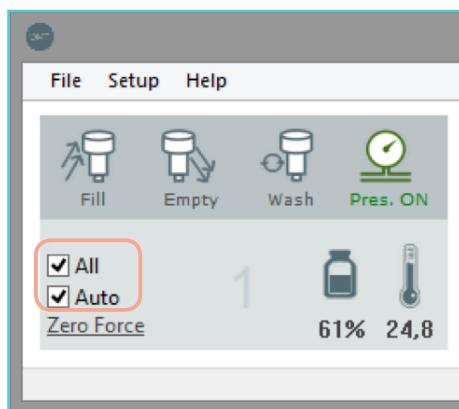

Figure 31
Step 1: Fill all chambers with 20ml buffer by placing a tick-mark in the Auto and All (figure 31). Enter 20ml the in Fill Volume and press the Fill button. All chambers are now filled with 20ml buffer (Can only be performed after the Fill Calibration have been made).
Step 3: Make sure that both the Auto and All has a tick mark as depicted in figure 31.
The above method will ensure that all chambers are empty in the Auto mode when the Empty button is pressed with tick-marks in All (figure 31).